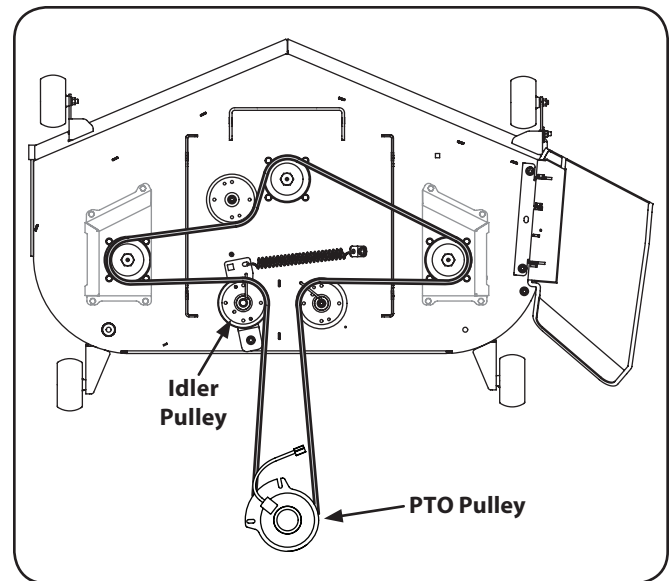

Figure 7-8
6. Route the belt as shown in Fig. 7-8. After routing the belt around the PTO pulley, use a 1/2" drive in the idler pulley bracket and turn towards the back of the tractor to finish routing the belt around the idler pulley.
4. Install the new belt around the spindle pulleys as shown in Fig. 7-8 and reinstall the belt covers.